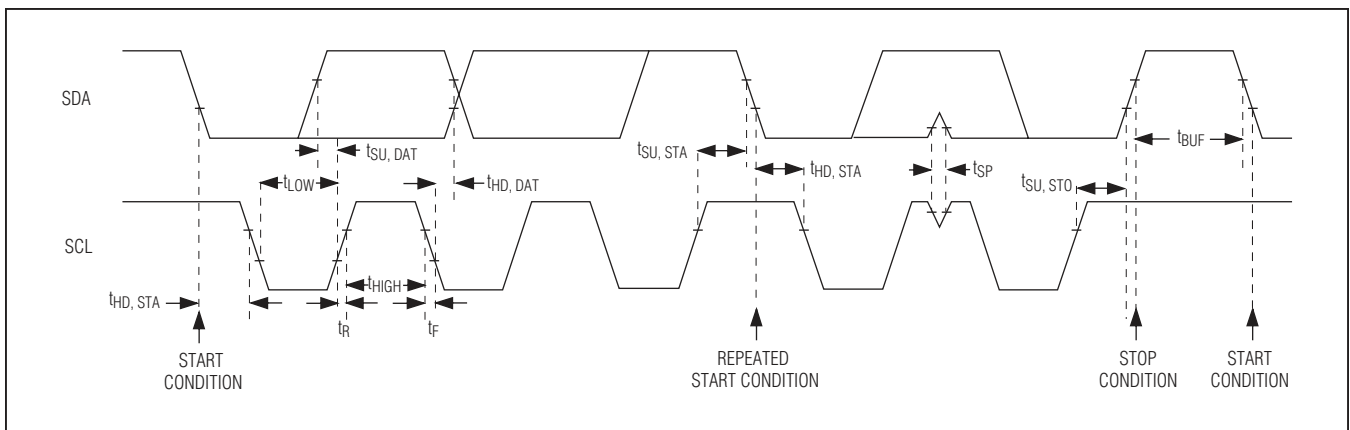

Figure 4. 2-Wire Interface Timing Diagram
The device features an I2C/SMBus™-compatible, 2-wire serial interface consisting of a serial data line (SDA) and a serial clock line (SCL). SDA and SCL facilitate communication between the device and the master at clock rates up to 400kHz. Figure 4 shows the 2-wire interface timing diagram. The master generates SCL and initiates data transfer on the bus. A master device writes data to the device by transmitting the proper slave address followed by the register address and then the data word. Each transmit sequence is framed by a START (S) or Repeated START (Sr) condition and a STOP (P) condition. Each word transmitted to the device is 8 bits long and is followed by an acknowledge clock pulse. A master reading data from the device transmits the proper slave address followed by a series of nine SCL pulses. The IC transmits data on SDA in sync with the master-generated SCL pulses. The master acknowledges receipt of each byte of data. Each read sequence is framed by a START